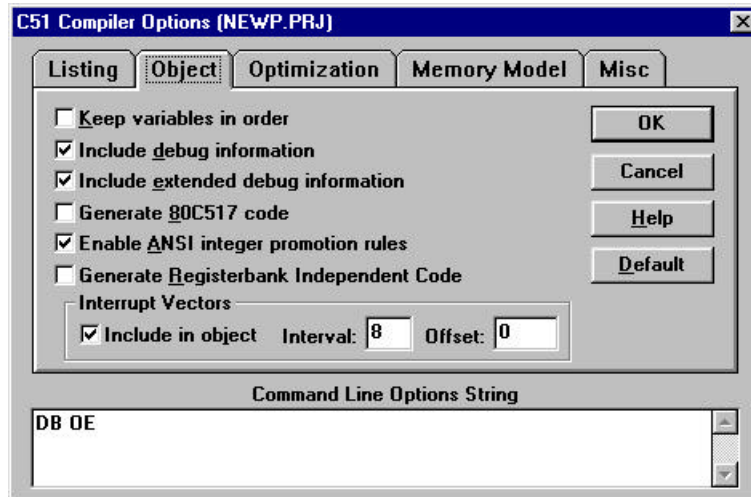

FIGURE 10
- Configure the options in the window under Object as shown in Figure 10 and press *OK*. Select *Include symbols* under the Listing tab.